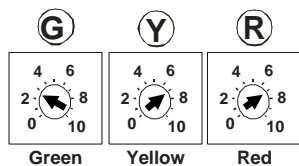
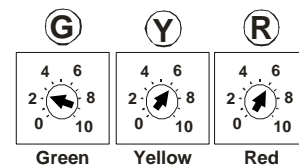

FIGURE 3
FIGURE 4
6. Remove the door from the Fi2000 module to expose the LED's. **NOTE:** The Fi2000 base pot settings come preset from the factory for the V-Star 950 with aftermarket air cleaner and full exhaust installed, shown in Figure 3. If your motorcycle has a slip-on muffler installed change the pot settings to those shown in Figure 4. Verify the wire connections by, (1), turning the ignition on while watching the 3 LED's. They will all light up for a few seconds, and then go off. This is correct. If there are no lights visible, make sure the side stand is up, bike is in neutral, clutch is in and handlebar engine switch is set to run. If there are still no lights visible, re-check that all connectors are fully engaged and the ground wire is connected correctly. (2), after achieving a steady light from all three LED's, start the motorcycle; the green light should now be the only LED on. If all three LED's are still on after start up, verify the injector connectors are correctly attached. Reattach the access door when finished and install the remaining components. **NOTE:** Make sure the ignition is turned off before changing any connections.